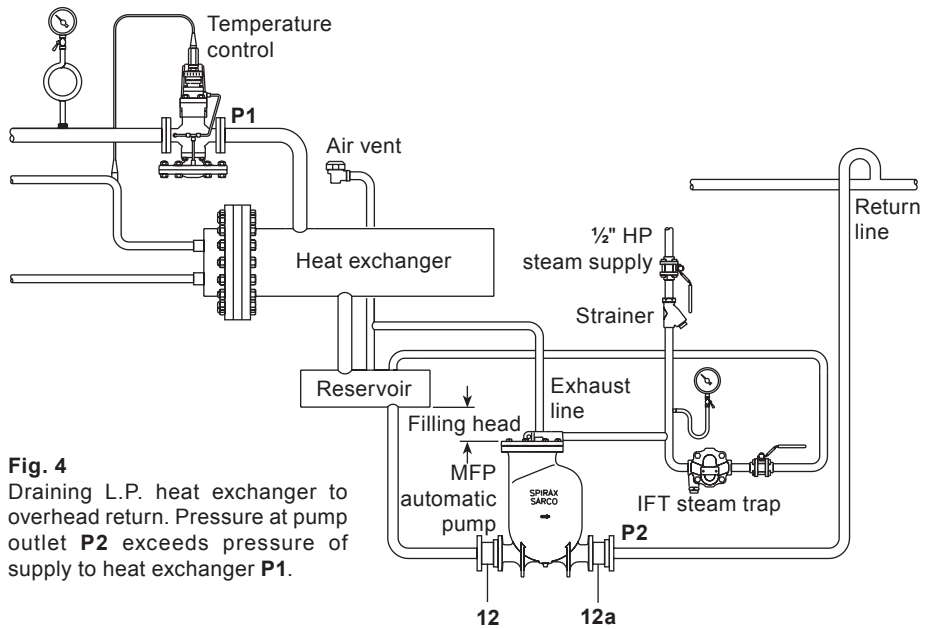

Fig. 4
1. Install the pump below the equipment being drained with the exhaust connection vertically upwards. The pump should be installed with the recommended filling head (vertical distance between the top of the pump and the bottom of the reservoir/receiver), see Section 3.2 and Figs. 4 and 5. For other filling head variants, refer to separate capacity chart.
2. To prevent equipment flooding during the pump discharge stroke, a vented receiver or reservoir pipe should be installed in a horizontal plane ahead of the pump as shown in Fig. 4. For proper receiver/reservoir sizing refer to Tables 1 and 2 on page 13. All inlet fittings must be full bore.
3. Connect the check valves (12) and (12a) to the pump, making sure that the flow through the valves is in the correct direction.